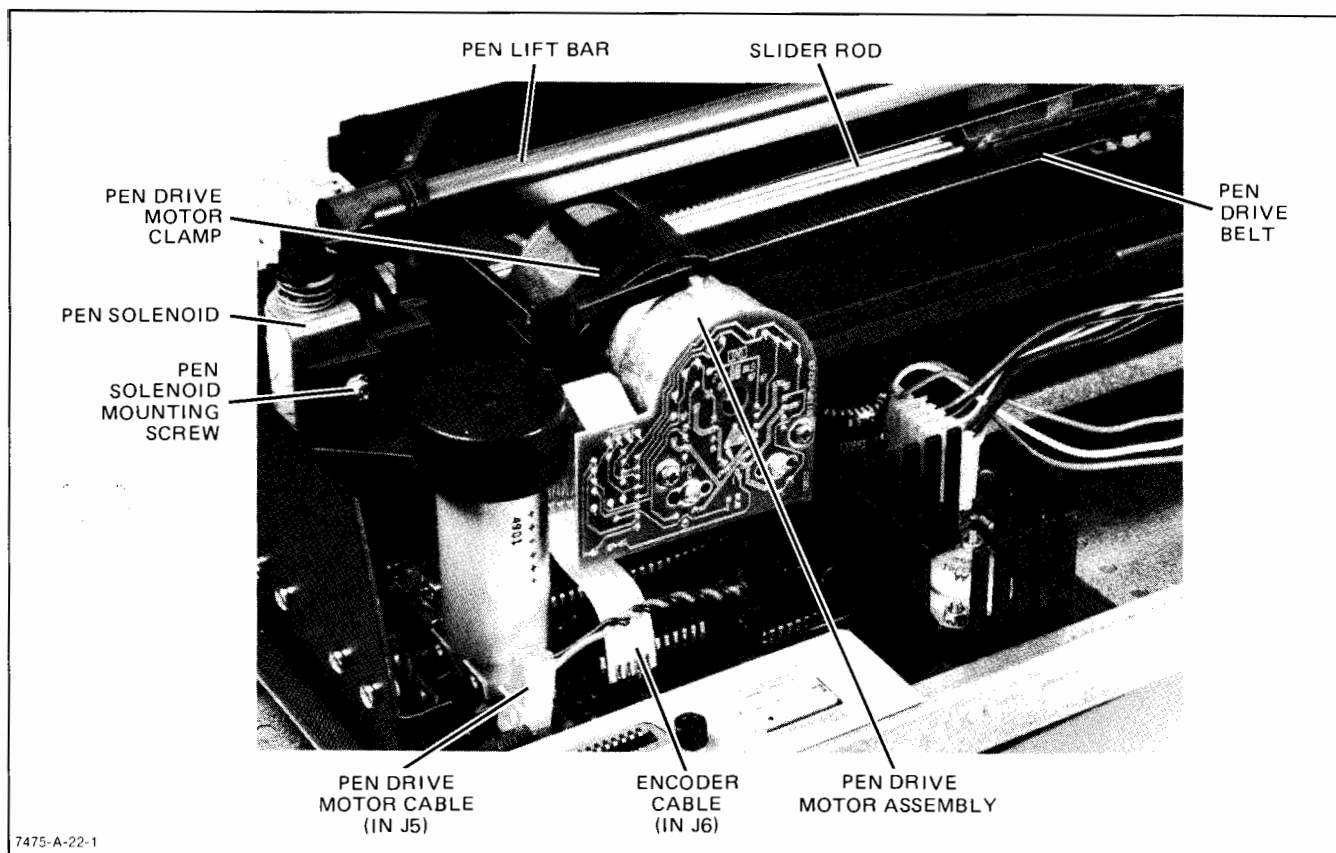

Figure 6-13. Pen Solenoid and Pen Drive
- d. Loosen the solenoid mounting screw enough to allow removal of the solenoid. See Figure 6-13.
- b. Disconnect the pen drive motor cable (twisted pair) from J5 and the flat encoder cable from J6 on the main printed circuit assembly. See Figure 6-13.
- d. Loosen the pen drive motor clamp and remove the motor. See Figure 6-13.
- f. Loosen the pen solenoid mounting screw shown in Figure 6-13. Slide the solenoid to the right and remove the armature and spring.
- g. Move the slider rod to the right just far enough to release the left end of the rod from its mounting. See Figure 6-13. Slide the rod to the left and out of the carriage/penholder assembly.